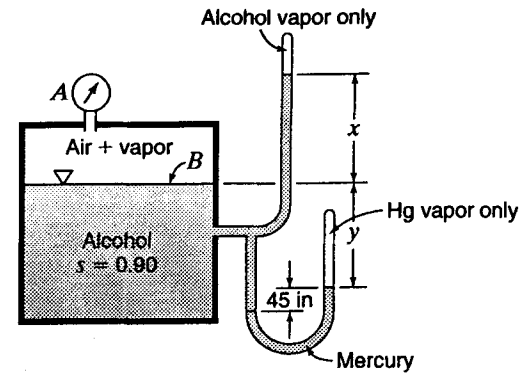

Figure X3.5.8
3.9 In Fig. X3.5.8 assume the following: atmospheric pressure = 930 mb abs; vapor pressure of the alcohol = 110 mb abs; $x = 3.30$ m and $y = 1.60$ m. Compute the reading (a) on the pressure gage and (b) on the manometer.